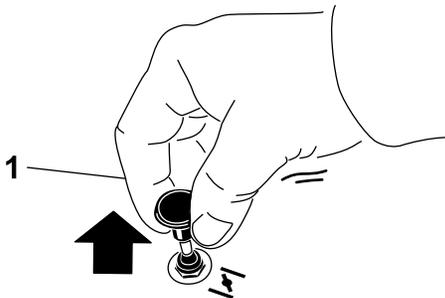

Figure 24
1. Pull up the choke knob to engage the choke before using the key switch (Figure 24).
2. Push down the choke to disengage the choke after the engine has started (Figure 24).